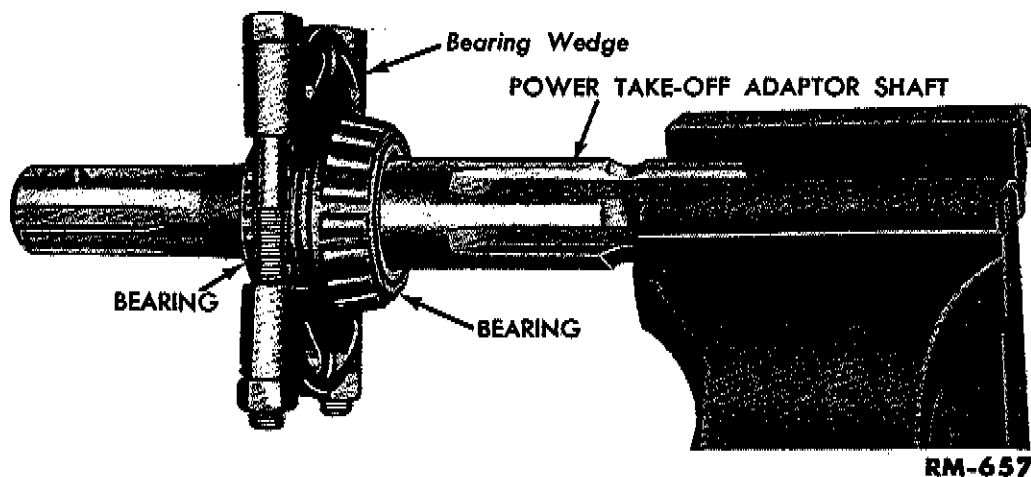
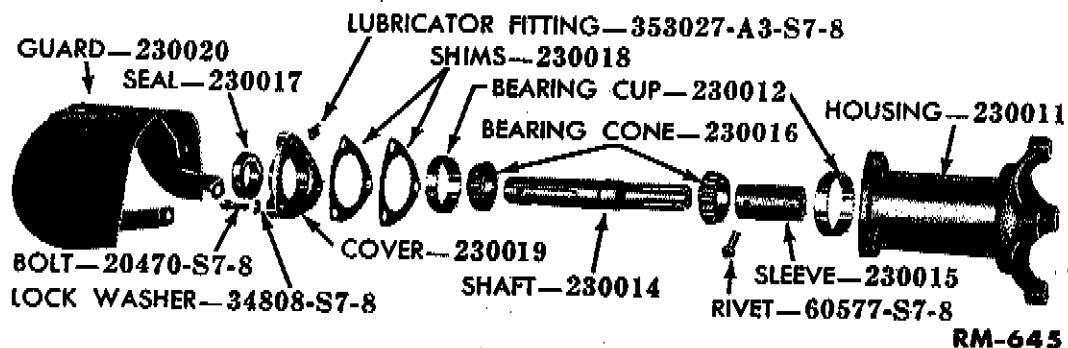

Fig. 45—Separating Power Take-off Adapter Shaft Bearings
Fig. 47—Power Take-off Adapter, Disassembled
(1) **GUARD.** Replace the guard (fig. 47) if it is distorted or bent beyond repair.
(2) **SHAFT.** Replace the shaft (fig. 47) if it is broken or if the splines are worn or damaged.
(4) **BEARING.** Replace the bearing (fig. 47) if any of the rollers are missing, if they have flat spots, or if the surfaces are pitted or corroded. Separate the bearings with a bearing wedge and remove them with a puller as shown in figs. 45 and 46.
To assemble the power take-off adapter, position the sleeve on the shaft, and secure it to the shaft with a rivet (fig. 47). Install the bearing and shaft assembly in the housing with the sleeve end of the shaft towards the rear of the housing (fig. 47). Press the oil seal (fig. 47) in the bearing retainer. Install the bearing retainer, shims, and guard on the housing. Adjust the preload to 5 to 12 pounds-inches by increasing the shim pack to reduce the preload or by decreasing the shim pack to increase the preload.